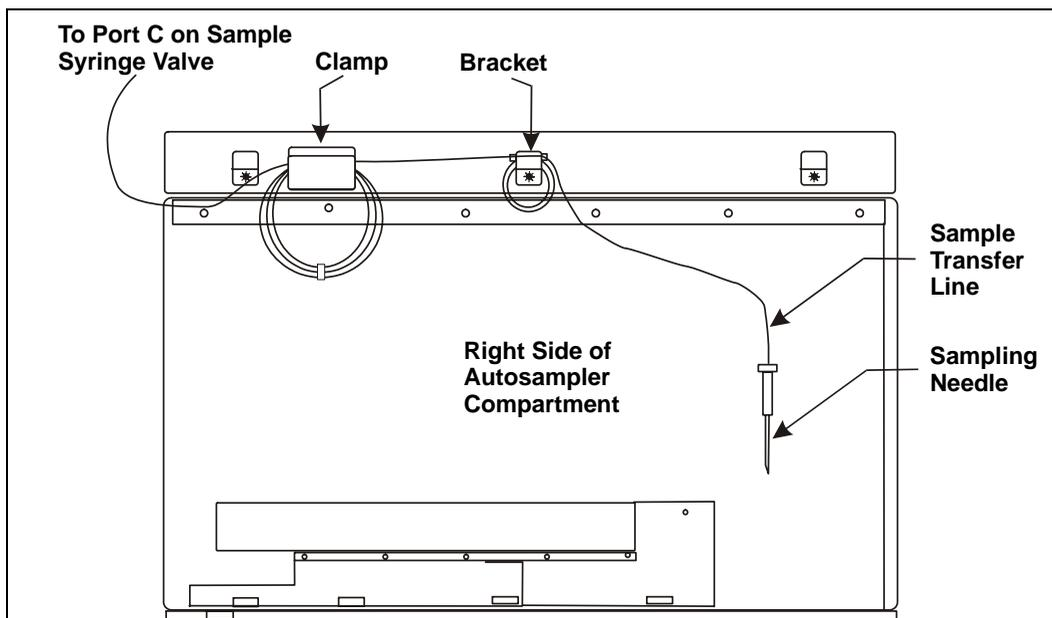

Figure 5-5. Sample Transfer Line Bracket and Clamp (Right Side of Compartment)
6. The sample transfer line is coiled and held by a bracket and clamp on the upper-right side of the autosampler compartment (see Figure 5-5). To remove the tubing, use a flathead screwdriver to gently pry the center bracket apart. Then, lift the tubing out of the bracket and clamp.
7. Measure the distance from the second yellow sleeve (see Figure 5-5) to the needle. When installing the new sample transfer line, position the sleeve on the new line the same distance from the needle.
10. Position the second yellow sleeve on the tubing in the position measured in Section 5.3.1, Step 7. Loop the tubing at the second yellow sleeve and attach it to the center bracket on the upper-right side of the autosampler compartment (see Figure 5-5). Use a screwdriver to push the bracket in slightly and hold the tubing securely.